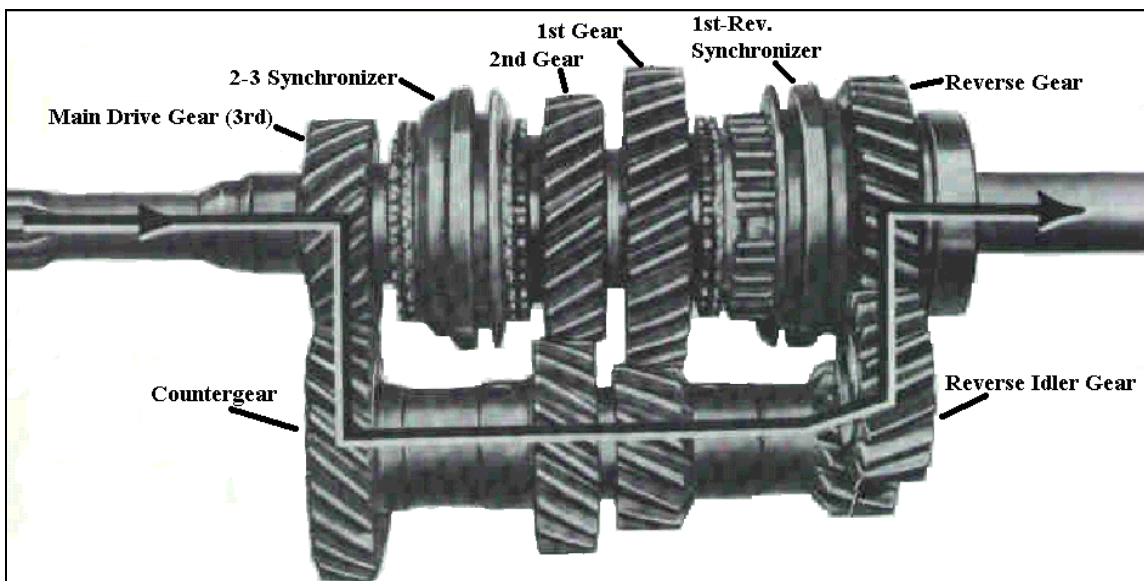

FIGURE 1.5 An idler gear is used in this transmission for the reverse gear.
- Change the direction of rotation (see figure 1.5)